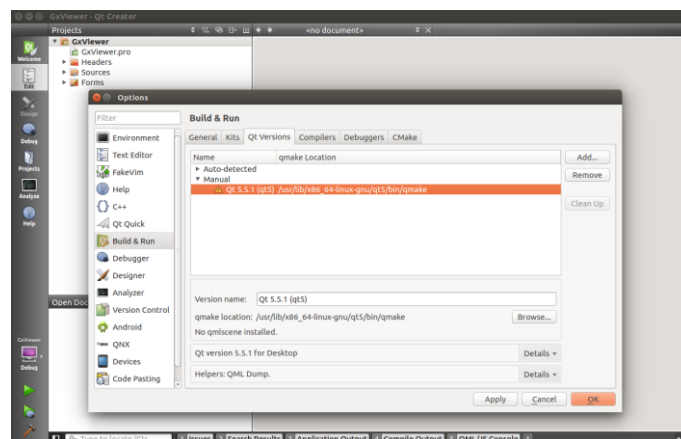

Figure 2-8
Step 2: When opening the project, if the project cannot be opened and the Kit related contents are prompted, you need to check the configuration of the qtcreator. Select **Tool -> Options -> Build & Run -> Qt Versions** to see if qmake is detected. If it is not detected automatically, you need to load it manually, as shown in Figure 2-8. This step can be ignored if the project can be opened normally.